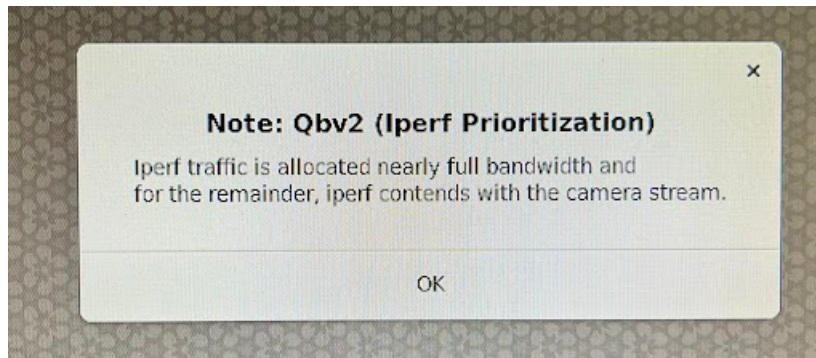

Figure 48. About Qbv2 (Iperf Prioritization) pop-up window
- After clicking the **Qbv2 (Iperf Prioritization)** button, a pop-up with a message appears, as shown in Figure 48.